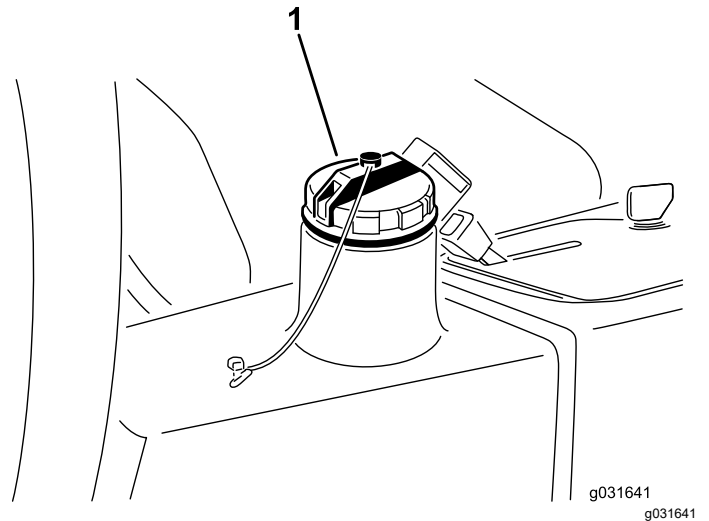

Figure 67
4. Fill the reservoir (Figure 67) with approximately 13.2 L (3.5 US gallons) of hydraulic fluid; refer to Hydraulic Fluid Specifications \(page 55\) and Checking the Hydraulic Fluid Level \(page 55\).